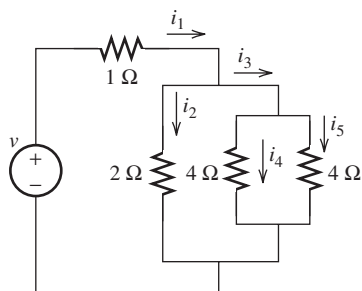

FIGURE P3.19 Circuit for Problem 3.19.
- 3.19** (A)* Find i_1 , i_2 , i_3 , and i_4 in Figure P3.19 supposing $i_5 = 2$ A.
- 3.20** (H) Find i_2 , i_3 , i_4 , and i_5 in Figure P3.19 assuming $i_1(t) = 4 \cos t$ A.